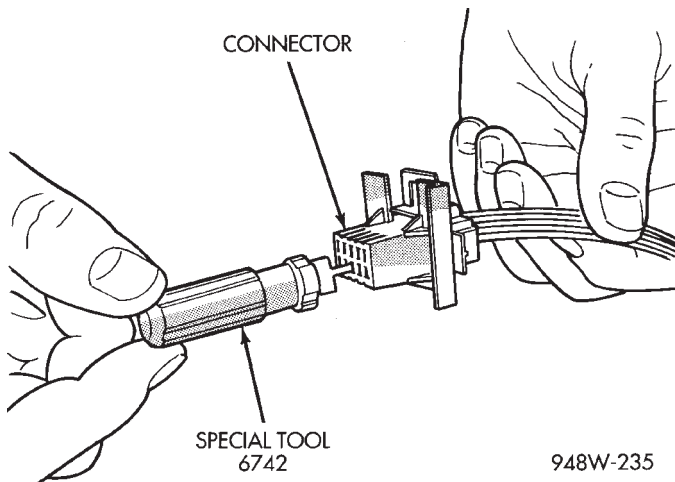

Fig. 11 Using Special Tool 6742
- (4) Using special tool 6742 release the locking fingers on the terminal (Fig. 11).
- (5) Pull on the wire to remove it from the connector.
- (6) Repair or replace the connector or terminal, as necessary.